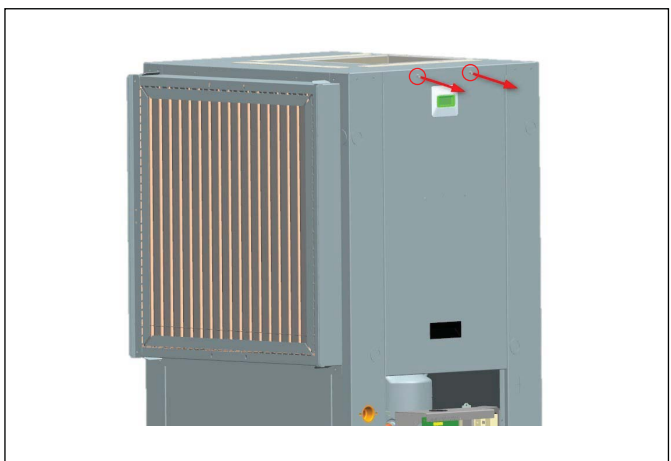

Figure 8
7. After the bottom panel has been removed, remove the top panel by unscrewing the 2 fasteners from the top panel (figure 8).